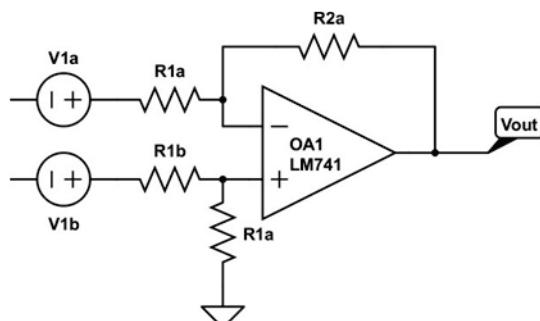

Figure 42: The difference amplifier
**The difference amplifier** shown in Figure 42 produces the weighted difference between the two voltages  $V_{1a}$  and  $V_{1b}$ . Set it up with resistors in the 1k-10k range to subtract a DC offset from an AC signal. Simulate the circuit first and start by making all resistances 1k. Then vary each resistor (e.g. replace each 1k resistor, one at a time with a 5k resistor). How do the weights in the weighted difference change? Then set up the circuit on the breadboard and check if your measured signals agree with your simulations.